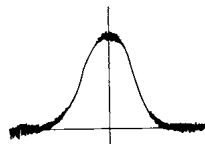

Fig. 9
- Short-circuit the OSC stage by earthing the live side of the variable capacitor in that stage. Adjust the core of T101 so that the gain will be max. In this case, reduce the level of the input signal of signal generator so that the waveform will be one shown in Fig. 9.